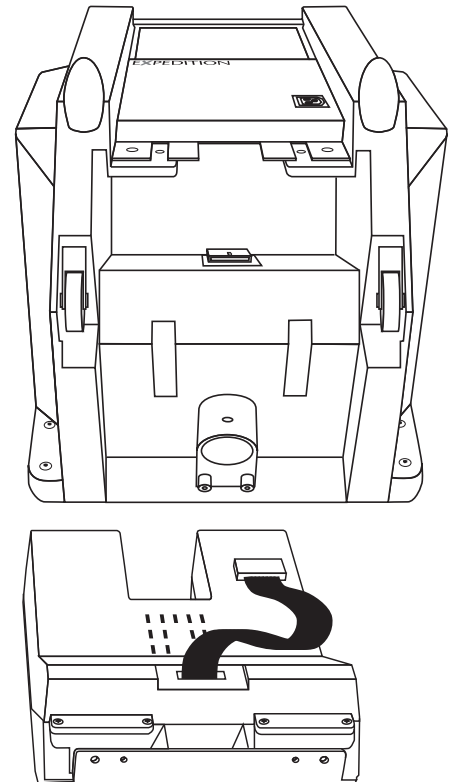
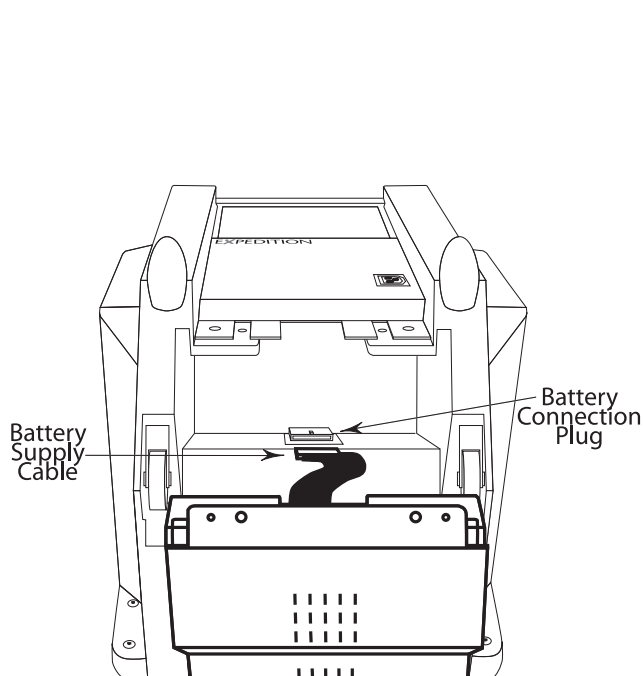

figure 2
figure 3
- Align the battery as in figure 2 and set its legs in the bottom of the XPL200 or XPL300 as in figure 3.
- Connect the Battery supply cable as in figure 3. **IMPORTANT! Both the connectors on the supply cable (from the battery) and connector plug (on the cabinet) are keyed. Be sure to connect the cable correctly or you'll risk shorting the battery which may result in fire and/or internal amplifier failure.**